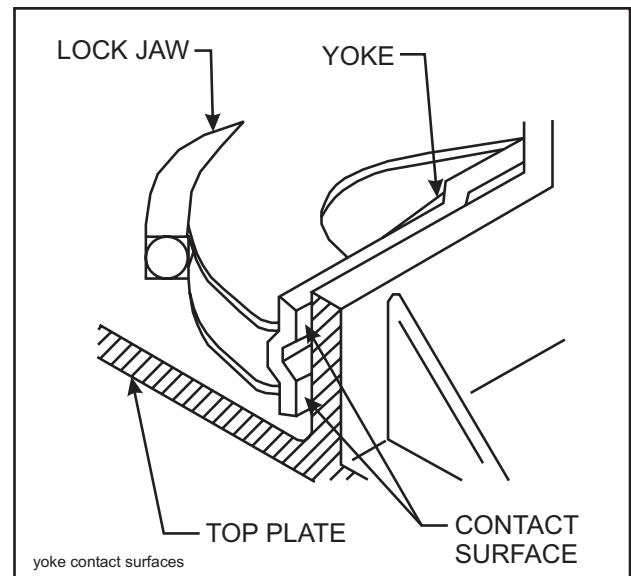

Figure 4-7 Yoke Contact Surfaces
- j. There are two contact surfaces (**See Figure 4-7**) on the outside of each yoke tip. All four surfaces must have full area contact with the top plate ribs. Continue the weld, grind, and fit process until the yoke has full contact and the yoke tips are flush with the ends of the locks.